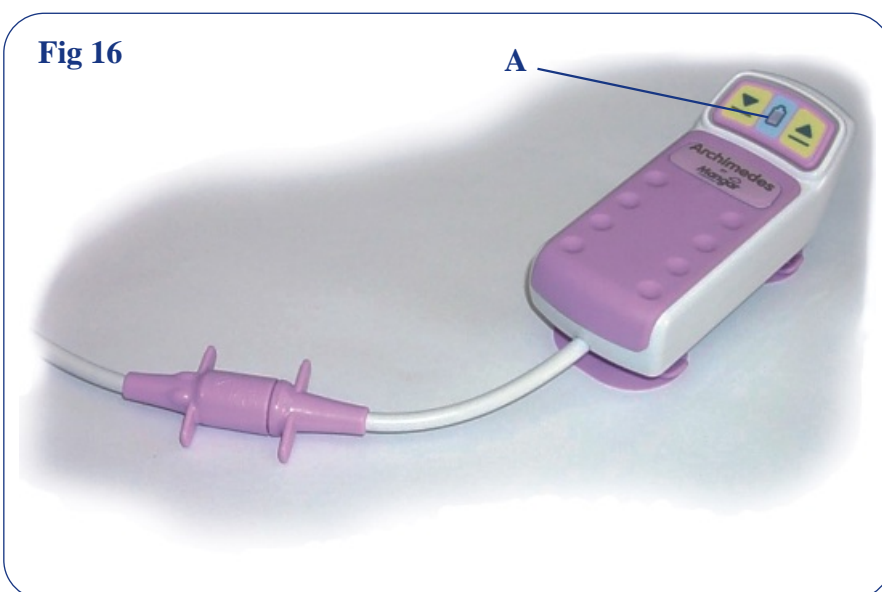

Fig 16
- Check that the hand control plug is FULLY pushed into the actuator cable socket (Fig.16).
- Check to see if the battery state indicator light (A fig.16) is showing RED. If it is put the hand control on charge overnight.